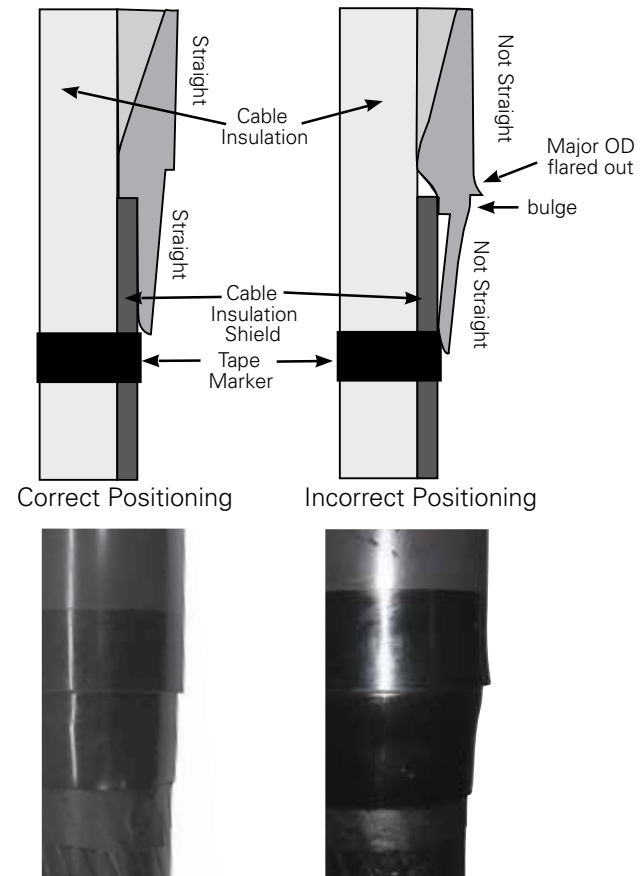

Figure 9. Cross sectional view of cable adapter positioning
- After sliding the cable adapter into position make sure that no bulge is present (see Figure 9).
Note: The end of the cable adapter must line up with the top edge of the tape marker after T-body assembly. Refer to Figure 9.